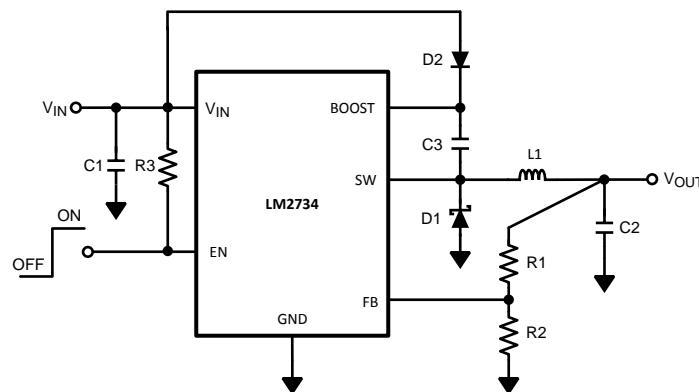

**Figure 31. LM2734X (1.6MHz)**
**Table 5. Bill of Materials for Figure 31**